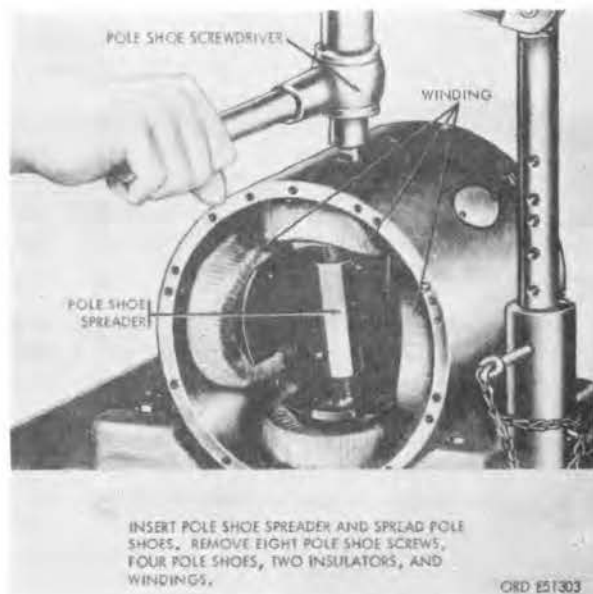

FIGURE 21. REMOVING POLE SHOES AND WINDINGS.
c. Refer to figure 21 and remove pole shoes, windings, and insulators from housing.
a. Install field windings on pole shoes, along with insulators, and position shoes and windings in housing. Hold shoes in position with pole shoe spreader, refer to figure 21. Field ground lead must be near terminal port in housing.
b. Coat eight pole shoe screws with blue seal thread sealer and install in housing and pole shoes. Tighten with pole shoe screwdriver, refer to figure 21.